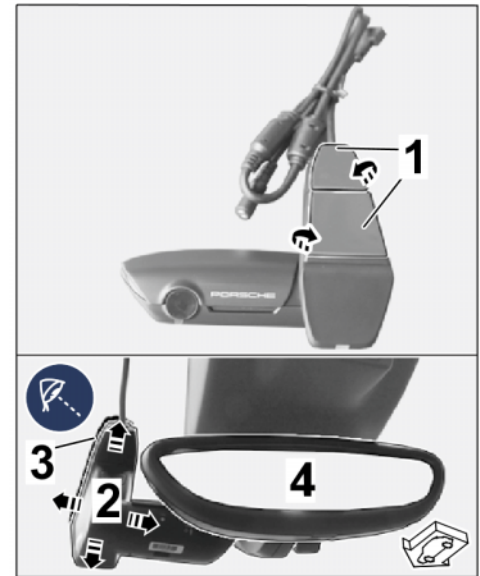

Figure 10
2.2.4 Pull protective film off the front camera retainer plate (⇒ *Figure 10-top-*).
Align front camera with retainer plate symmetrically with respect to the 3M privacy film (⇒ *Figure 10-bottom-*).